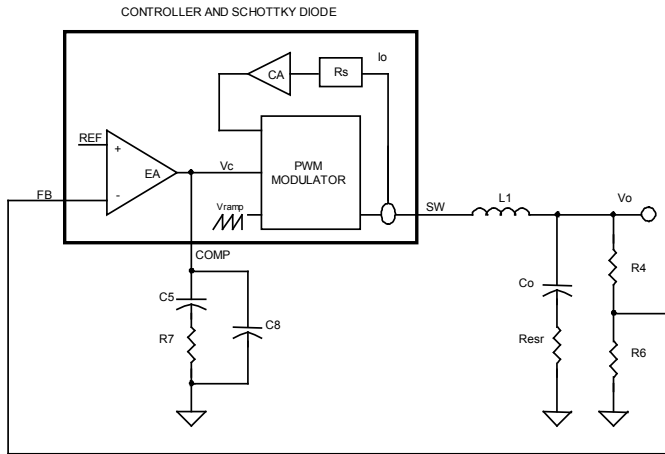

Figure 7. Block diagram of control loops
The block diagram in Figure 7 shows the control loops of a buck converter with the SC4524A. The inner loop (current loop) consists of a current sensing resistor ($R_s=6.1m\Omega$) and a current amplifier (CA) with gain ($G_{CA}=28$). The outer loop (voltage loop) consists of an error amplifier (EA), a PWM modulator, and a LC filter.
For a converter with switching frequency F_{SW} output inductance L_1 , output capacitance C_o and loading R , the control (V_c) to output (V_o) transfer function in Figure 7 is given by: